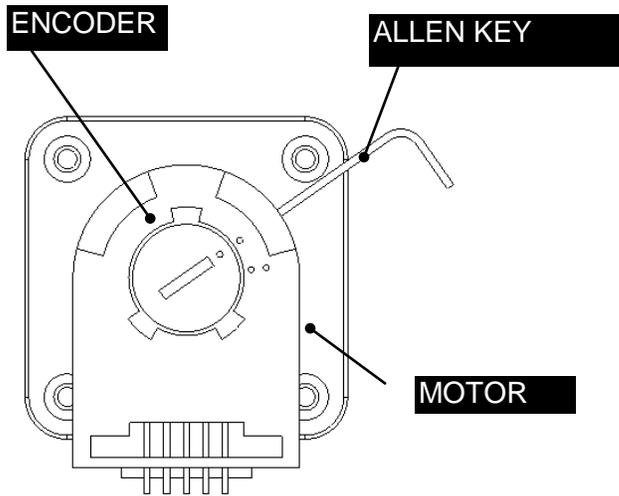

Figure 8-31: Removing the Encoder
- Put an Allen key into the encoder and place an upward force on as shown in Figure 8-31 to remove the encoder.